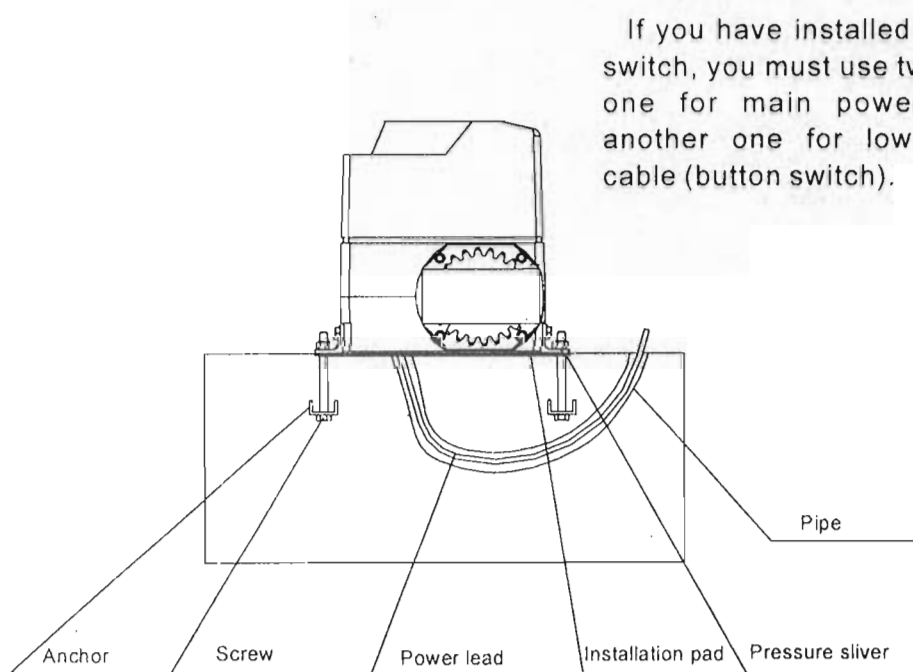

Fig.5
- Installation of the gate operator: you can fix the foundation of the gate operator as shown in Fig.5. A pipe/pipes \* must be used to protect the power lead. Then fix the motor on installation pad.